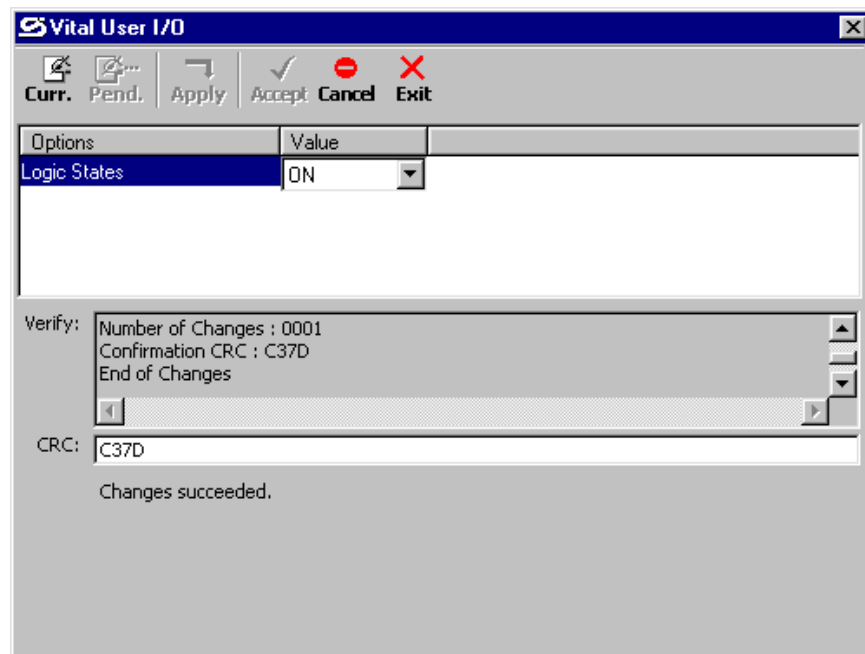

Figure 3-51
12. After the changes are accepted, the phrase “Changes succeeded” appears below the CRC text box (see figure 3-51). The changes have now been applied and have been enforced in the CIC. There are no pending values for Vital User I/O.